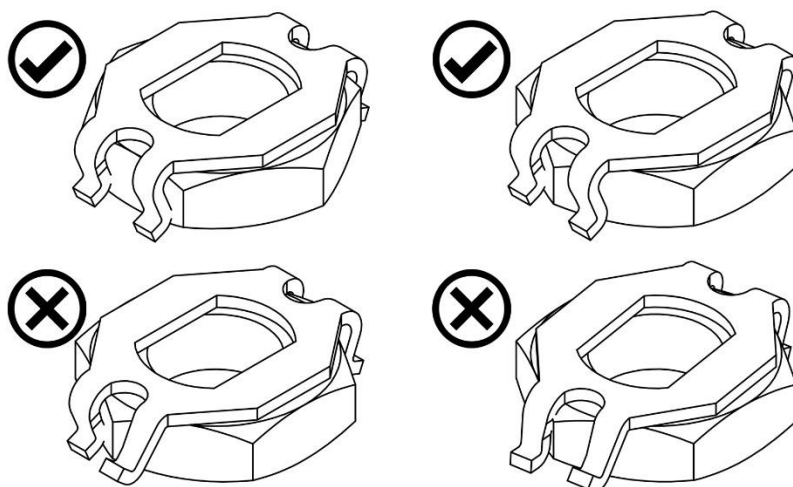

Figure 3 Fitting the locking clip
- f) Fit the locking clip correctly as shown in Figure 3.